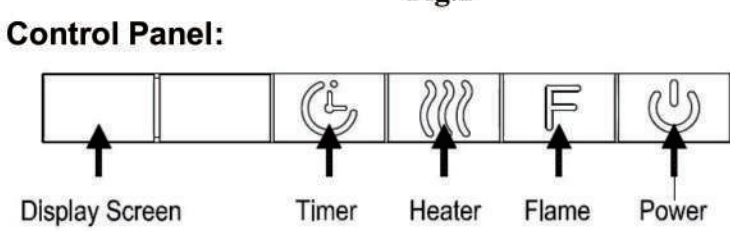

Fig.3
- 2.Using the remote control(Fig.4), functions same as control panel(Fig.3).